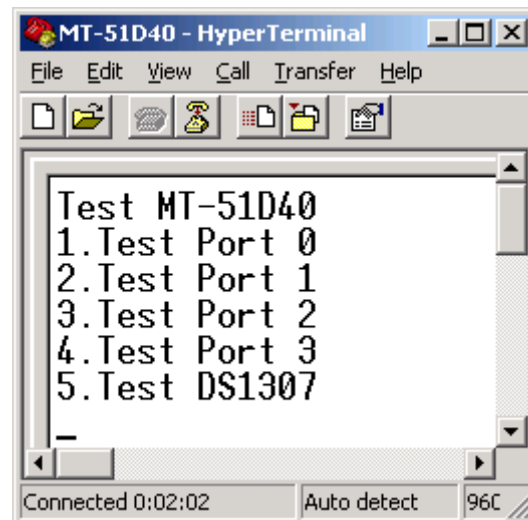

Figure6. Menu of test program
3. Reset MT-51D40 by push reset button on the board, Test menu will display as in Figure 6. In case of character LCD is connected with LCD port, LCD will show board testing messages